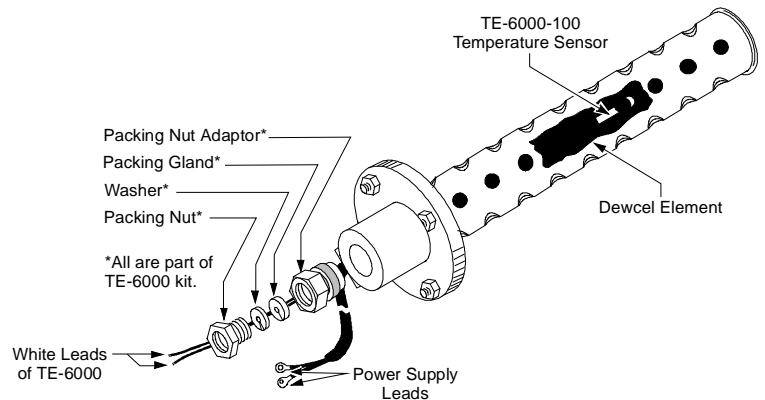

Figure 14: TE-6001-5 Foxboro Dewcel Assembly
3. Install the TE-6000 sensor as shown in Figure 14.